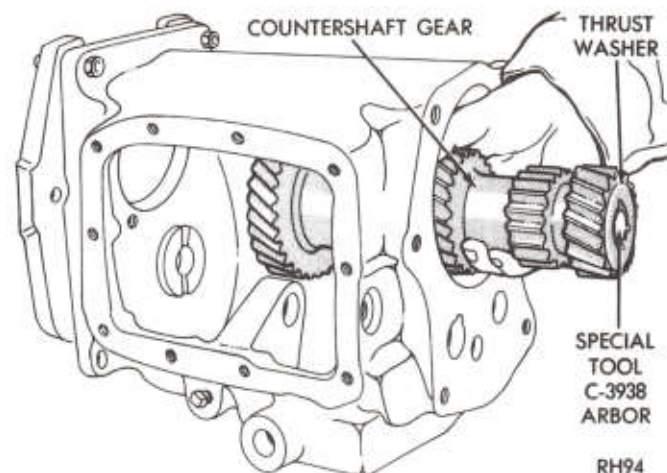

Fig. 25—Remove or Install Countershaft Gear
- (1) Remove pinion bearing inner snap ring. Using an arbor press, remove bearing from pinion.
- (2) Remove snap ring and 16 bearing rollers from cavity in drive pinion.
- (3) Remove countershaft gear from bottom of case (Fig. 25).
- (4) Remove arbor and 76 needle bearings, thrust washers, and spacers from center of countershaft gear.
(3) If countershaft thrust washers are worn or scored, install new thrust washers. Coat thrust washers with grease and install them over arbor with tang side toward the case boss (Fig. 25).
(4) Install countershaft gear assembly into the case (Fig. 25). Allow gear assembly to rest on bottom of case. (Be sure thrust washers stay in position).